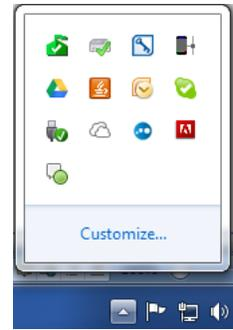

Figure 57 – “Safely Remove Hardware” icon
3. Once the files are successfully exported, eject the storage medium by using the “Safely remove hardware” option in Windows (typically found by expanding the system tray and selecting the “remove hardware” icon, an example of which is shown in Figure 57).